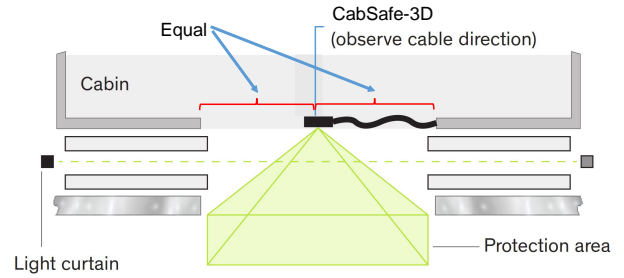
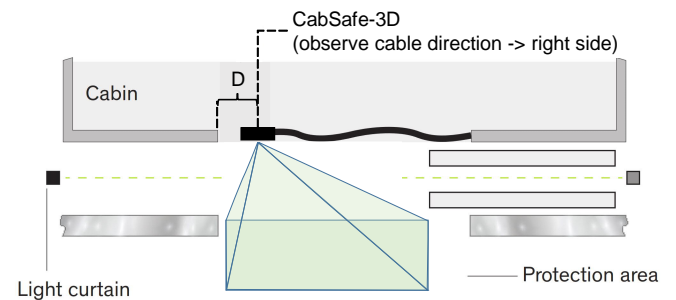
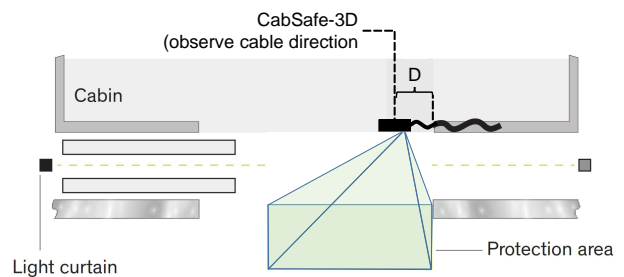

Figure 23: Mounting location and orientation - center opening door
Figure 24: Mounting location and orientation – sensor mounted on left side
Figure 25: Mounting location and orientation – sensor mounted on right side
- The CabSafe TDL (Tall Door Left) must be installed on the left side of the elevator door entrance when looking from the hallway to the cabin (Figure 24).
- The CabSafe TDR (Tall Door Right) must be installed on the right side of the elevator door entrance when looking from the hallway to the cabin (Figure 25).
A. Cable must exit right when looking into the elevator cabin (Figure 23, Figure 24, Figure 25)
The sensor located near the slam post (strike jamb) and a minimum distance from the slam post (strike jamb) must be maintained; see Figure 24 and Figure 25 for details.